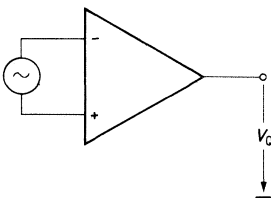

Figure 3
d) Open-loop voltage gain G_{VO} is the amplification without feedback (**figure 3**).